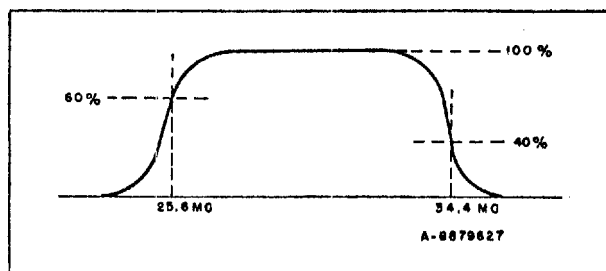
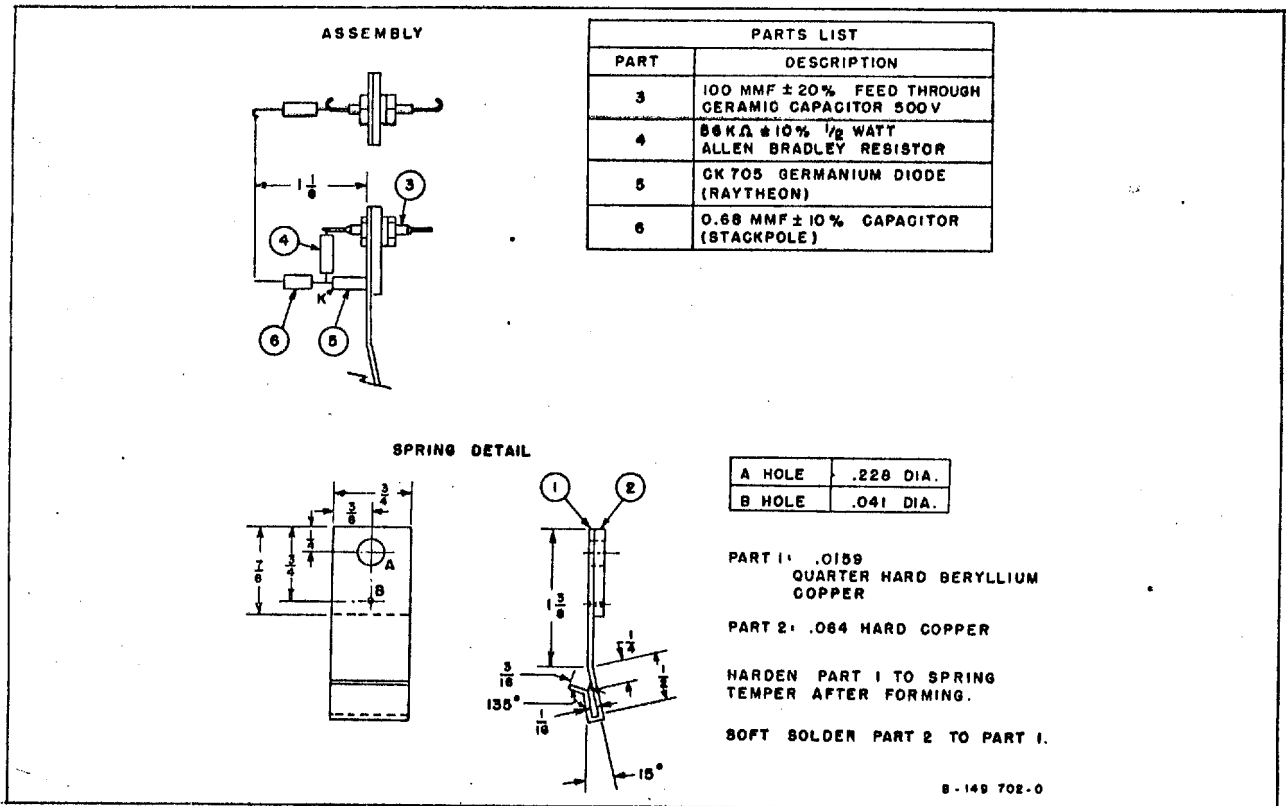

Figure RM-5—30 mc IF Response Curve
Figure RM-6—30 mc IF Alignment Jig
c. Connect the sweep generator to 2L17, ground 2V3-1, connect test equipment item 27(c) (see figure RM-6) to the bottom end of 2C27, and attach the scope to the alignment jig. With the scope gain on maximum, adjust the sweep generator output for the minimum value providing an adequate picture. Align 2L20, 21 and 22 as above except place the 25.6 mc marker at the 60% response point and the 34.4 mc marker at the 40% response point as shown in figure RM-5.